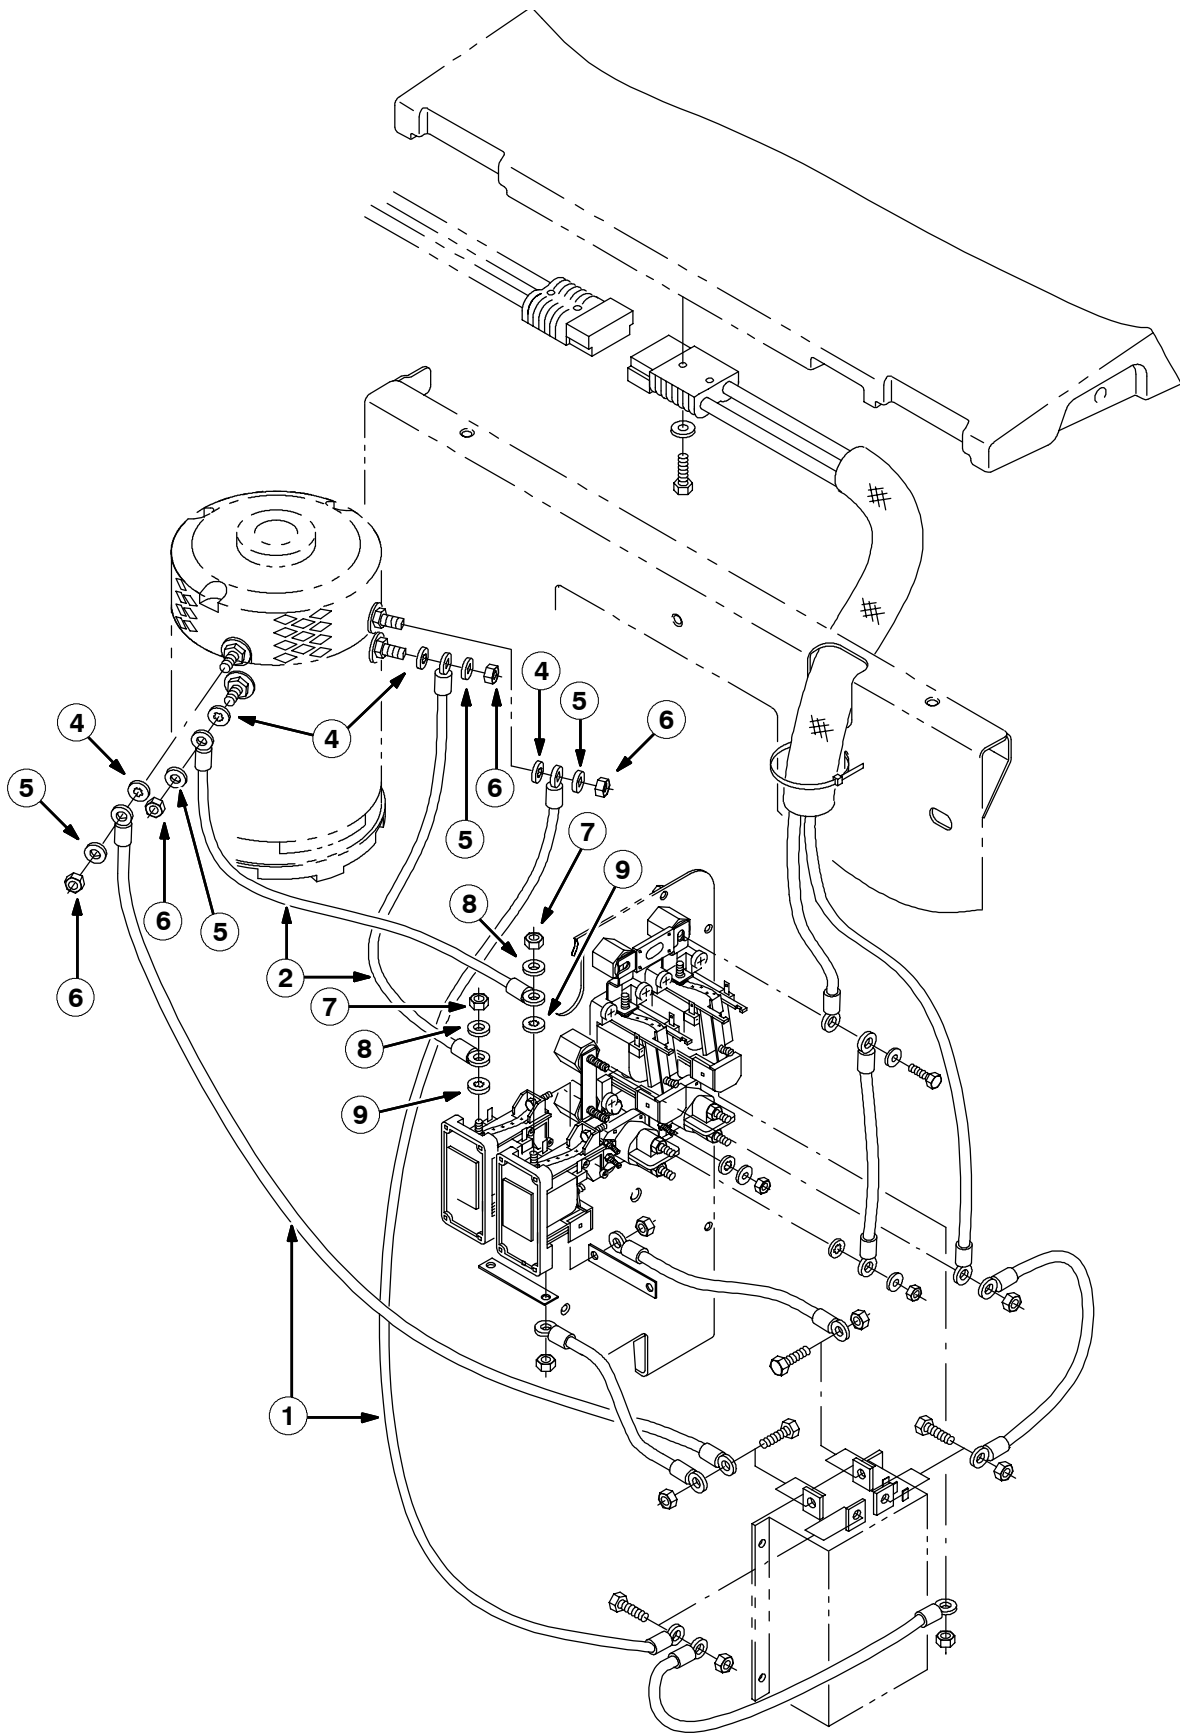
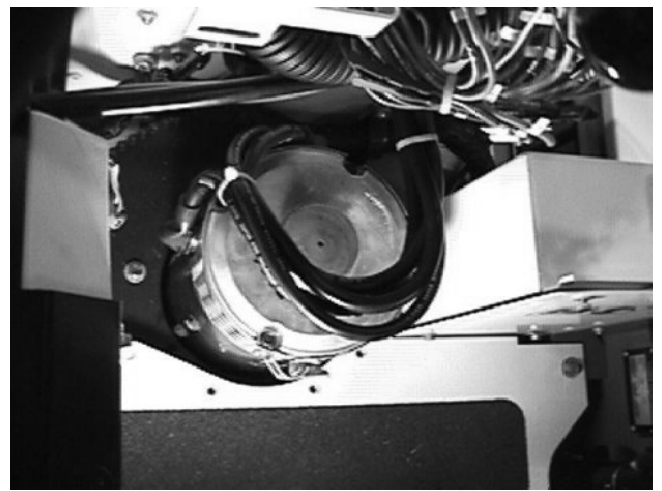

FIG. 1 - NEW CABLE AND HARDWARE INSTALLATION, PROPEL MOTOR
FIG. 2 - NEW CABLE ROUTING, PROPEL MOTOR
(Refer to FIG. 1, 2 and 3)
(Refer to FIG. 2 and 3)
9. Connect one end of each new 4 gauge wire (2), to each of the lower posts (S1 and S2) on the propel motor, with new nuts (6), flat washers (5) and lock washers (4) in sequence shown in FIG. 2. Only hand tighten the mounting hardware at this time. (Refer to FIG 1)
1. Carefully route the 4 gauge wire from post S1 to the inside contactor. Route the 4 gauge wire from post S2 to the outside contactor. Connect the ends of the wires to the contactors with new lock washers (9), flat washers (8) and nuts (7) in sequence shown in FIG. 2. Only hand tighten the mounting hardware at this time. (Refer to FIG 1)
2. Connect one end of each new 2 gauge wire (1), to each of the top posts (A1 and A2) on the propel motor, with new nuts (6), flat washers (5) and lock washers (4) in sequence shown in FIG. 2. Only hand tighten the mounting hardware at this time. (Refer to FIG 1)
3. Carefully route the 2 gauge wire from post A1 to the inside post on the motor controller. Route the 2 gauge wire from post A2 to the outside post on the motor controller. Connect the ends of the wires to the posts on the motor controller with set aside hardware in sequence shown in FIG. 2. Only hand tighten the mounting hardware at this time. (Refer to FIG 1)
(Refer to FIG. 2 for proper cable routing)
9. Check that all new motor wires are routed the same way as shown in figure 2.
(Refer to FIG. 2)
11. Slide any excess length of the 4 gauge wires into the panel box. Secure the new motor wires with wire ties. (Refer to FIG. 2)